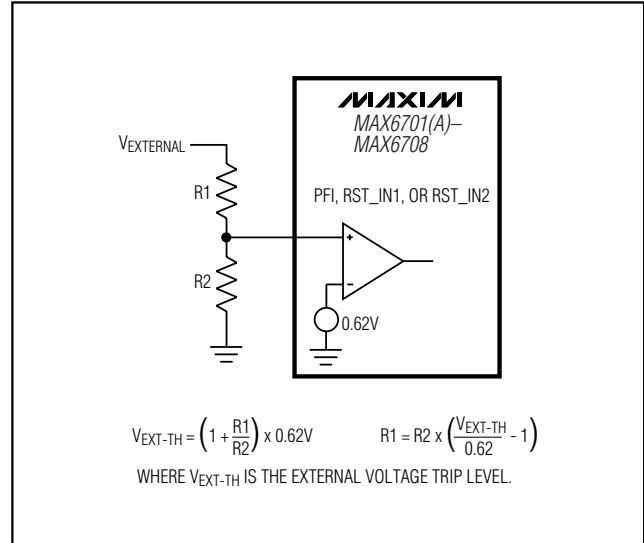

Figure 8. Calculating Adjustable Voltage Thresholds
The MAX6701(A)/MAX6702(A)/MAX6703(A) include two adjustable reset inputs for monitoring up to a total of three system voltages (including  $V_{CC}$ ). The thresholds for the monitored RST\_IN supplies are externally set with resistor-divider networks (Figure 8). The reset output is asserted if any of the monitored supplies ( $V_{CC}$ , RST\_IN1, or RST\_IN2) go below its specified threshold and remains asserted for the reset timeout period after all supplies are above their thresholds.